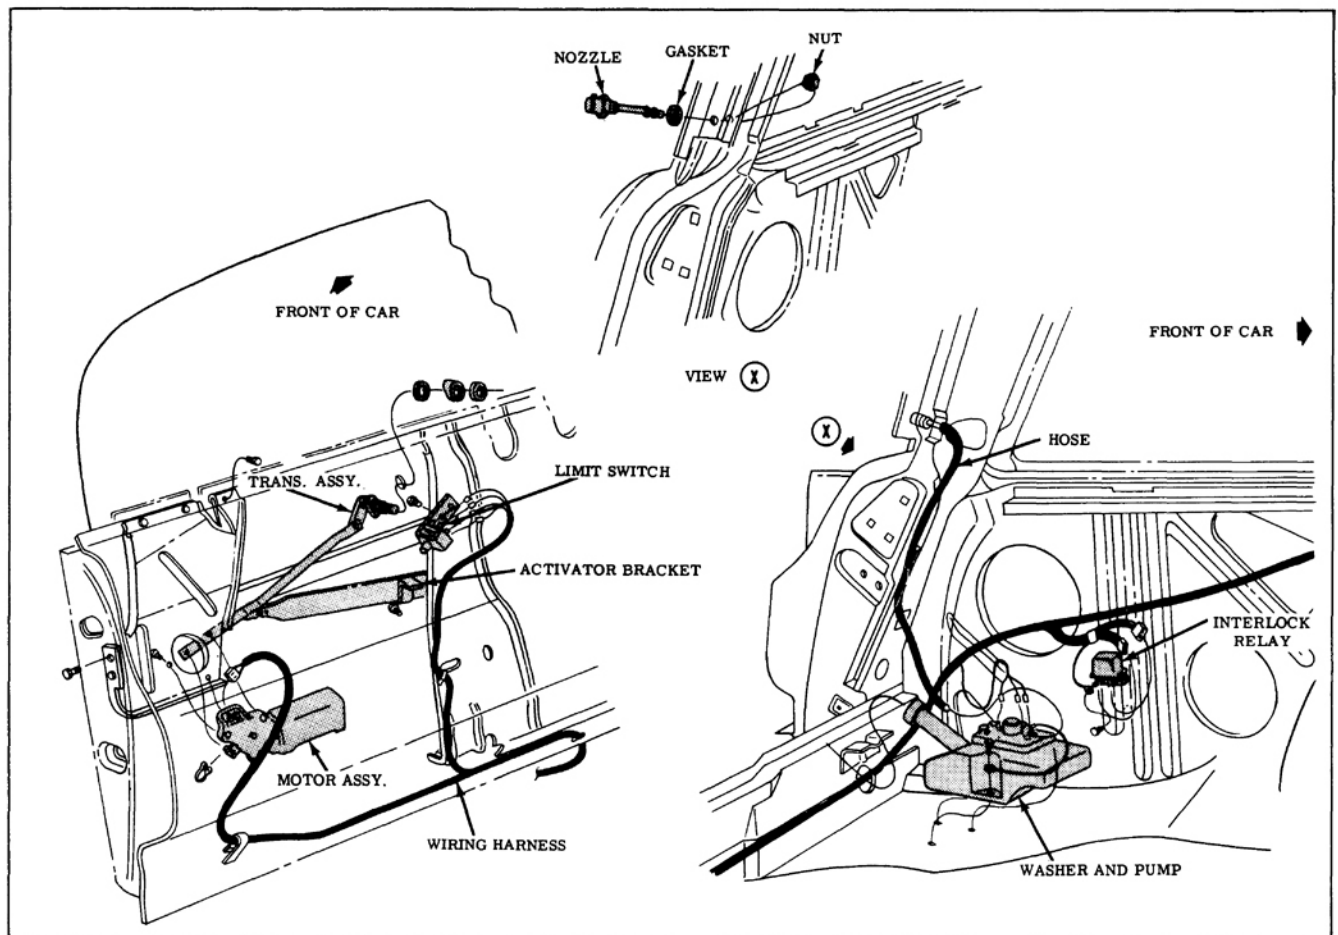

Fig. 16-224 Tailgate Window Washer Installation
WIPER MOTOR AND TRANSMISSION (Fig. 16-224)
4. Remove the wiper motor and transmission. (Fig. 16-224)
WASHER NOZZLE (Fig. 16-224)